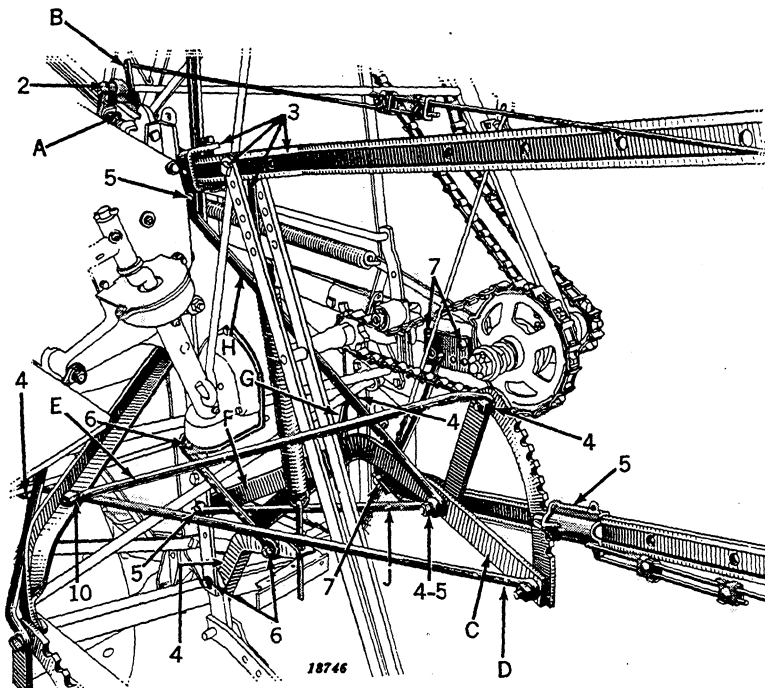
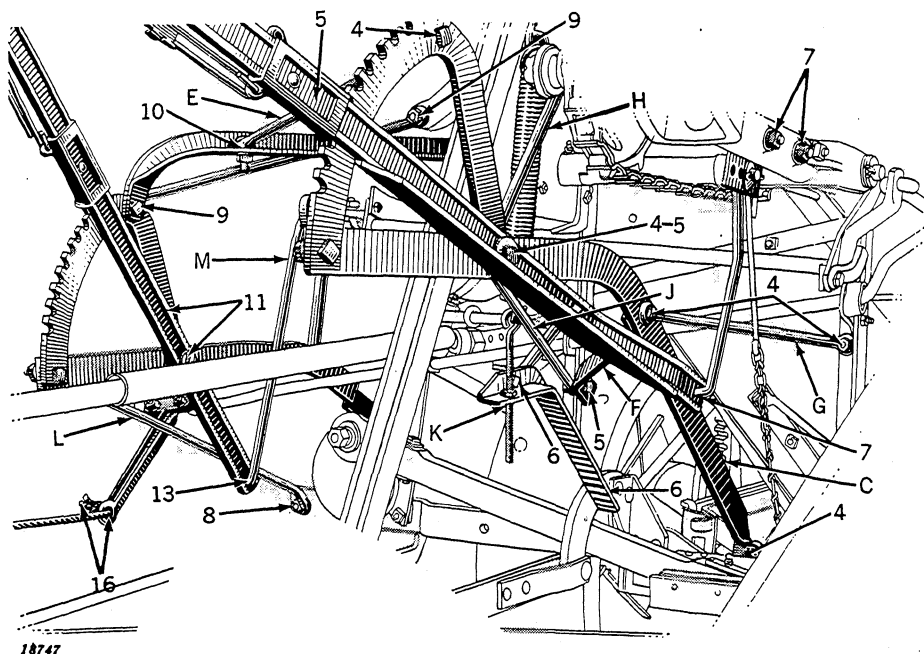

Figure 97
Figure 98
2. (Figure 97) Block up front of binder and disconnect tilting straps. Assemble detent crank on platform tilting lever as follows: Remove elevator squaring brace from tilting lever hinge bolt and remove platform tilting lever. Remove detent spring and rear bolt in arm at "A." Insert long bolt, found in crank assembly, in arm. Replace detent spring, tilting lever, and elevator squaring brace. Attach crank as shown. Filler block goes between lever and crank plate.
3. (Figure 97) Hook tilting lever detent rod into detent crank at "B" and bolt tractor control tilting lever, tilting spring with attachment rod and tilting straps to tilting lever arm. Tilting spring attaching rod goes between tractor control lever and tilting straps. Remove blocking under front of binder.
4. (Figures 97 and 98) Flat support "C," for reel lifting sectors, bolts to rear of cutter bar and main frame sill (see "A," Figure 59). Round brace "D," Figures 97 and 99, bolts to front elevator brace angle. Bolt left-hand end of round brace "E," to top hole in sector. Do not attach right-hand end of brace at this time. Bolt flat brace "F," to right-hand side of support "C," at the same time bolting round brace "G" to left-hand side of support "C" and to front elevator.
5. (Figures 97 and 98) Attach reel lifting lever to sector as shown. At the same time, using lever hinge bolt, attach round braces, "H" and "J" to the right-hand side of support "C" in the order named. Bolt round brace "J" to right-hand side of leg of elevator support angle and at the same time bolt flat brace "F" to left-hand side of leg. Bolt round brace "H" to elevator support angle as shown in Figure 97.
6. (Figures 97 and 98) Bolt tilting spring arm and round brace to elevator support angle. Tilting spring should have just enough tension at "K," Figure 98, to allow the binder to tilt easily. Make this adjustment after lever attachment is completely assembled.
7. (Figures 97 and 98) Bolt connecting plate, with rod attached, to lower reel support as shown. Connect rod to reel lifting lever.
8. (Figures 98 and 99) Bolt binder shifter lever sector support bar to front side of main frame corner brace. Brace "L" bolts to binder shifter lever sector and to main frame.
9. (Figures 98 and 99) Bolt angle brace from left-hand side of binder shifter sector to elevator support angle. At the same time attach brace from right-hand side of sector to adjuster crankshaft box.
10. (Figures 97, 98 and 99) Bolt brace "E" to angle brace "9."
11. (Figures 98 and 99) Attach binder shifter lever to sector with hinge bolt as shown.
13. (Figures 98 and 99) Shift binding attachment to rear position, set binder control lever at top of sector, then bolt connection to binder shifter crank, with binder shifter link "M," as shown. Connect link to binder shifter lever. Adjustment at "N" is provided to make lever more convenient to tractor operator.